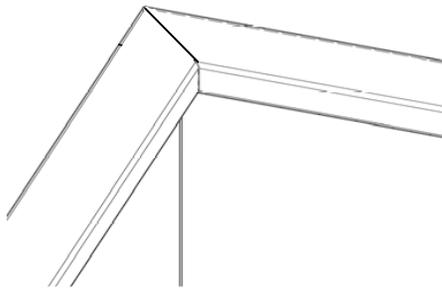

Figure 12
- b. At intersections where panel courses meet, cut end of Top Cap to meet adjoining Top Cap. IE: if two Panel courses meet at 90°, then cut one intersecting Top Cap longer to cover end post, and miter or butt the other up to it (as may be ones preference) (figure 12). Corners may also be mitered.